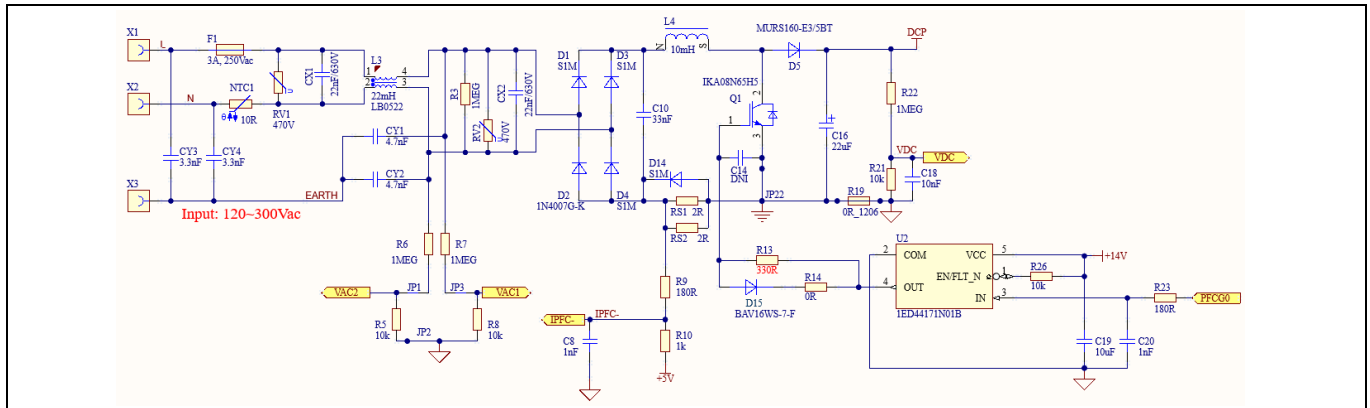

Figure 28 The PFC and peripheral circuit
Figure 28 provides the PFC MOSFET driver and peripheral circuit.
As shown in Figure 28, two resistors RS1 and RS2 (paralleled) with 1% tolerance, 2 Ω, and 0.25 W are used for the PFC shunt resistor in this reference board. The real AD input voltage can be calculated as below according to the principle of Kirchhoff's voltage law:
- In this reference board design, the voltage level on the PFC current-sensing resistor is negative with reference to ground, so an ADC operational bias is needed, and PFC current-sensing input polarity should select “inverting” in MCEWizard. R9 and R10 in Figure 28 determine the ADC operational bias for current-sensing; the bias value is 762 mV, so the real AD sampling range for the PFC current-sampling voltage ranges from 0 mV to 762 mV.